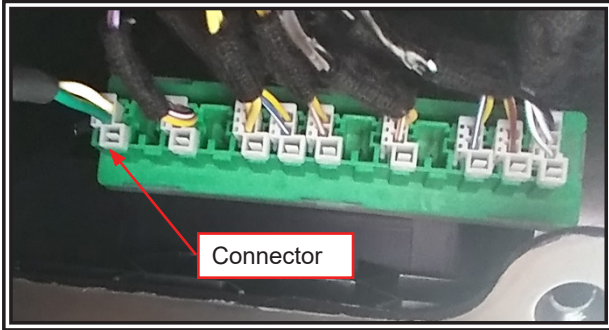

Figure 3
Step 5. Route the CAN BUS connection wire up and through the dash to the green terminal block located in FIGURE 3.